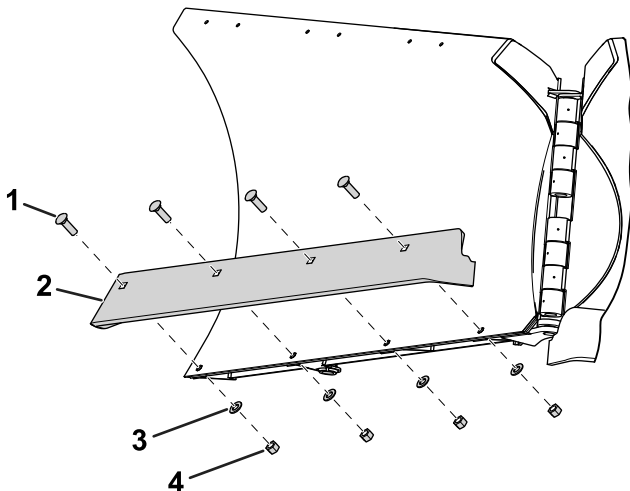

Figure 1
3. Remove the existing cutting edges by removing the bolts, washers, and nuts that secure the cutting edges to the blades (Figure 1).